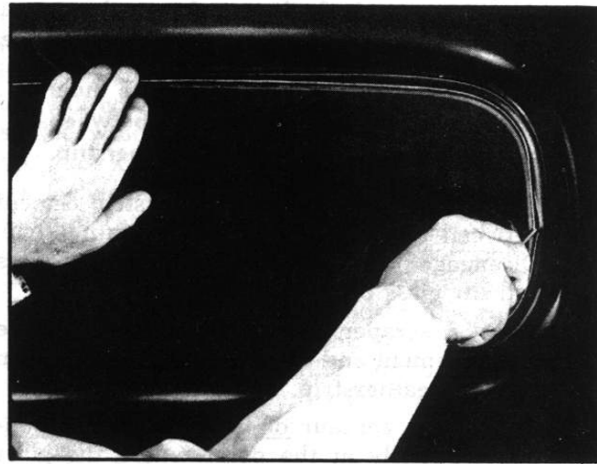

Fig. 7—Installing Cab Rear Glass
5. Start one end of the glass into its channel in the weatherstrip. Using a pointed tool, follow around the rear lip of the glass channel so it bears against the rear surface of the glass (fig. 7).